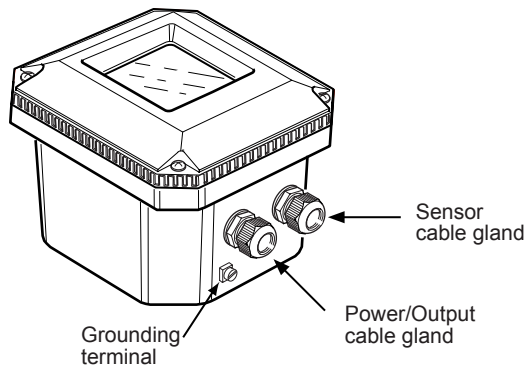

Figure 3-5. Glands to be used for cabling
4. Connect the sensor input, using the gland on the right (see fig. 3-5). Switch on the power. Commission the instrument as required or use the default settings.